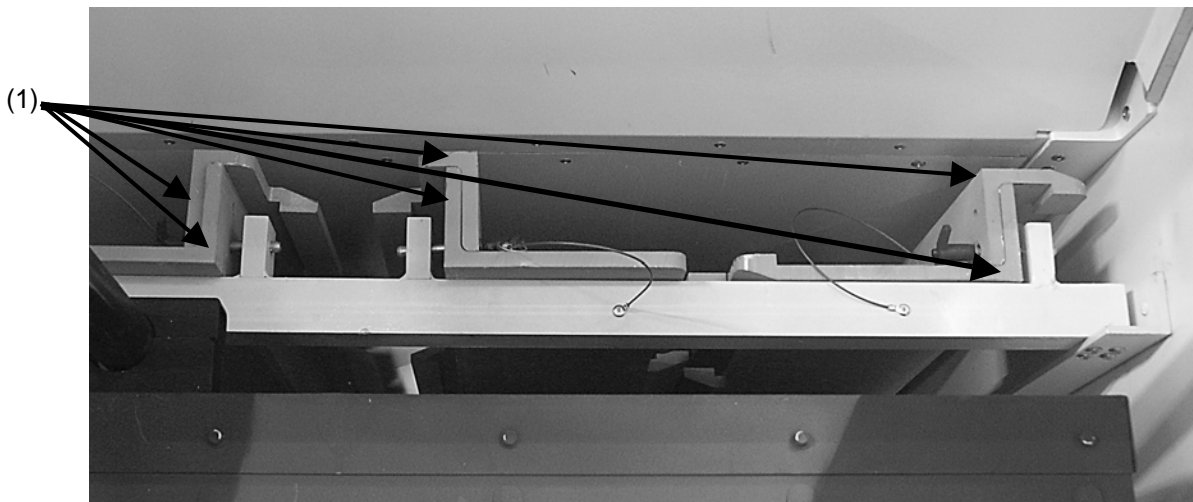

Figure 2-26. Detent rails stored.
Six detent rails (1) (3 thin and 3 wide) are stored in mechanical compartment above generator (Fig. 2-26).